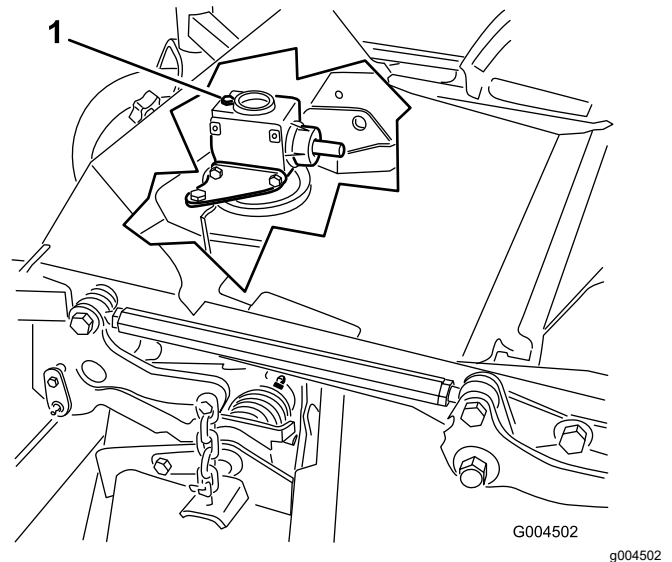

Figure 69
6. Remove the dipstick/fill plug from the top of the gearbox and make sure that the lubricant is between the marks on the dipstick (Figure 69).
6. Remove the dipstick/fill plug from the top of the gearbox (Figure 69).